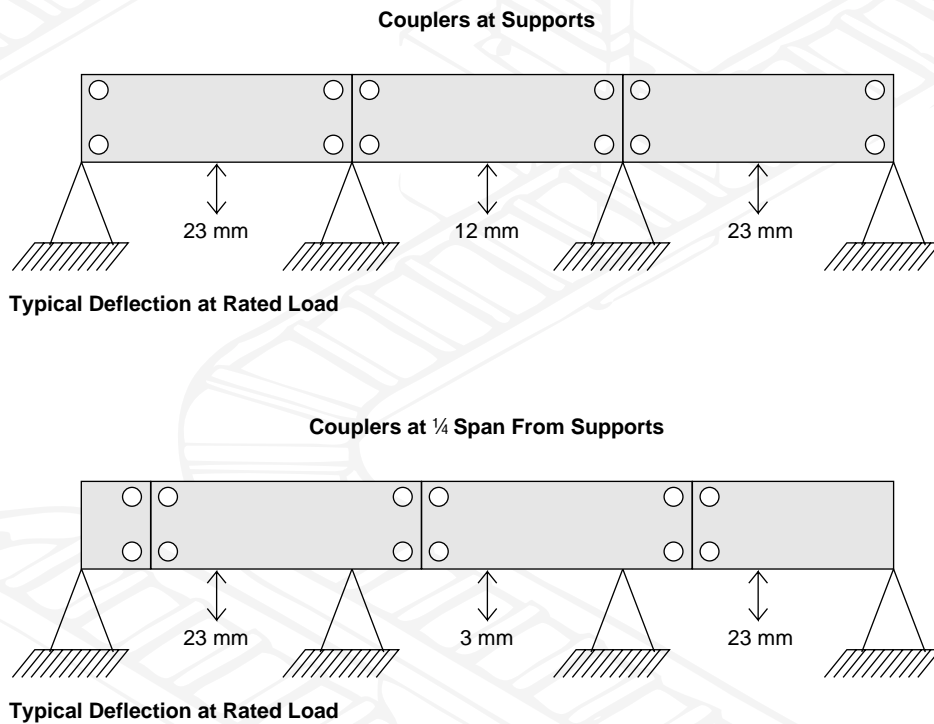

Figure 1.4
**Location of Couplers.** (See Figure 1.4.) The location of the coupler dramatically affects the deflection of a cable tray system under equal loading conditions. Testing indicates that the maximum deflection of the center span of a three-span cable tray run can increase four times if the couplers are moved from one-quarter span to above the supports. This can be a major concern for designers considering modular systems for tray and pipe racks.